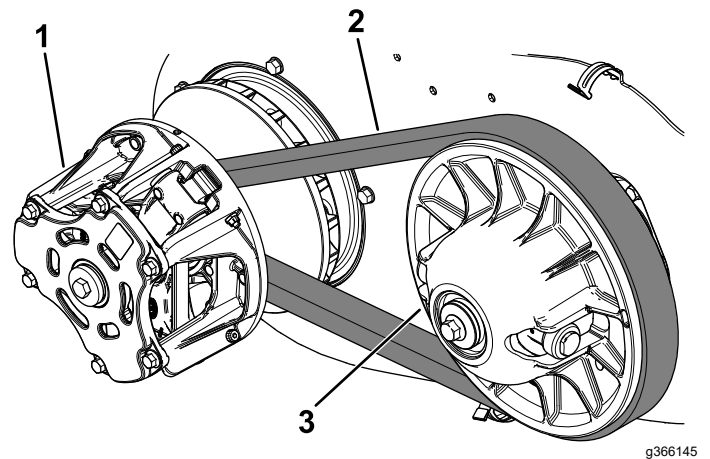

Figure 94
6. Rotate and inspect the belt (Figure 94) for signs of excessive wear or damage.
7. Using compressed air, clean the clutches thoroughly of all debris (Figure 94).
6. Pull up on the top of the belt to spread out the secondary clutch, then rotate and route the belt over the secondary clutch (Figure 94).
7. Remove the belt from the primary clutch (Figure 94).
8. Align the new belt over the primary clutch (Figure 94).
9. Rotate and route the belt over the secondary clutch (Figure 94).